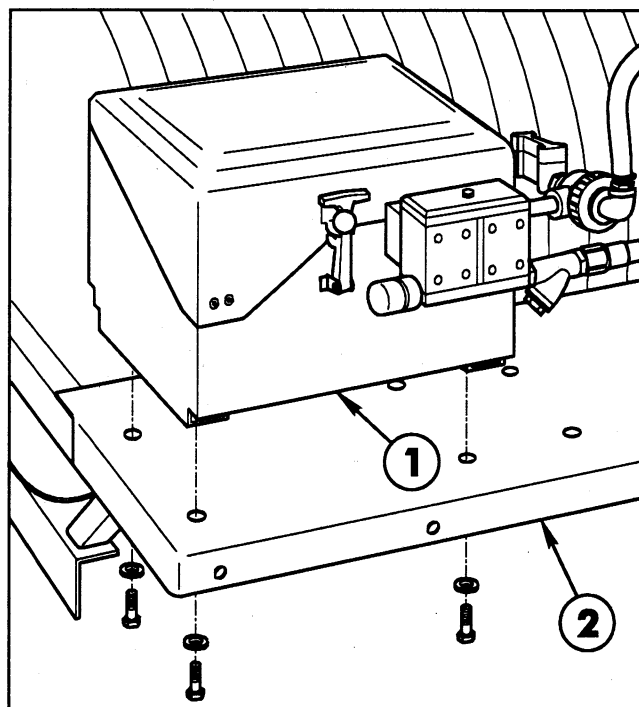

Fig. 1
1. Mount the Injection Pump Housing to the rear of the Chem 2 Saddle Shelf using four (4) 3/8" x 3/4" cap screws and flat washers. See Fig. 1.